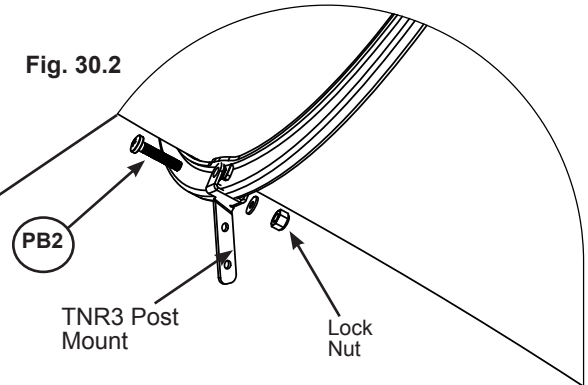

Fig. 30.3
C: Insert TNR3 Post Mount on (281) TNR Upright, pre-drill with a 1/8" drill bit then attach with 2 (S6) #12 x 1" Pan Screws. (fig. 30.3)